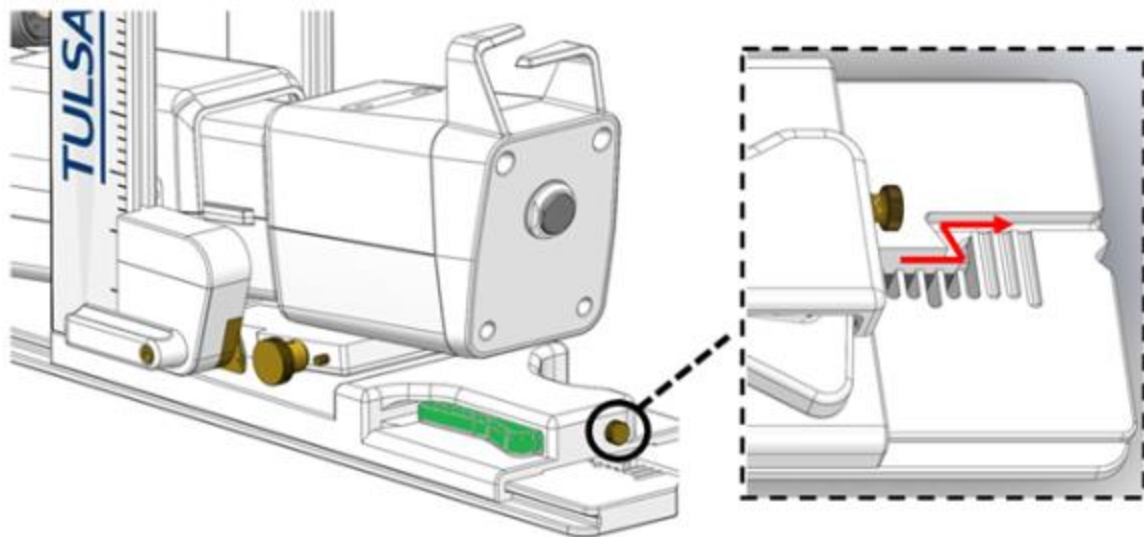

Figure 62: Removing PS from base plate
1. Remove the PS from its notched base plate by partially unscrewing the thumbscrew located on the rear of the PS base and depressing the horizontal adjustment lever through the Z channel at the rear of the PS base (*Figure 62*).